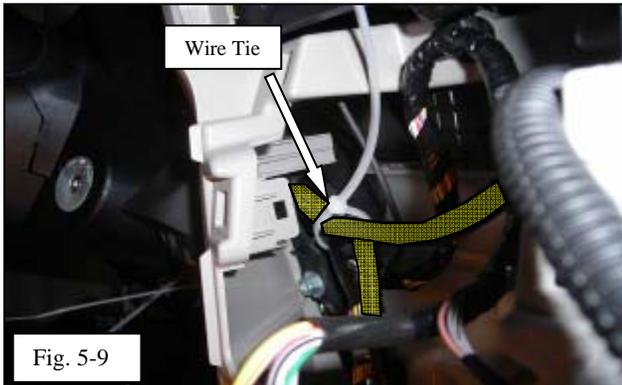

Fig. 5-9
(n) Route the main harness and switch harness through to the center panel area and secure to the OE harness with one (1) wire tie as shown. (Fig. 5-9)